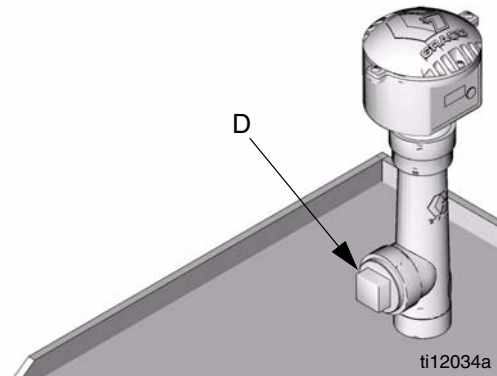

FIG. 7
Port (D) is not to be used as a fill hole for oil deliveries. See FIG. 7.